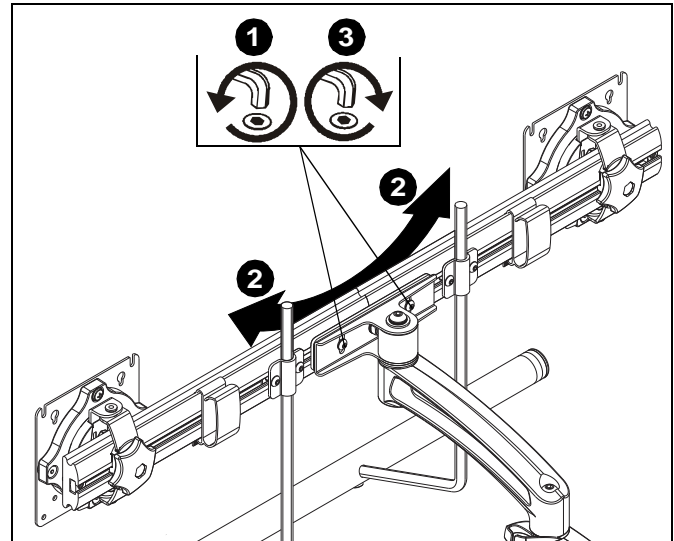

Figure 6
1. Loosen roll adjustment screws on back of array bracket. (See Figure 6)
2. Adjust roll of array bar as desired. (See Figure 6)
3. Tighten roll adjustment screws on back of array bracket. (See Figure 6)